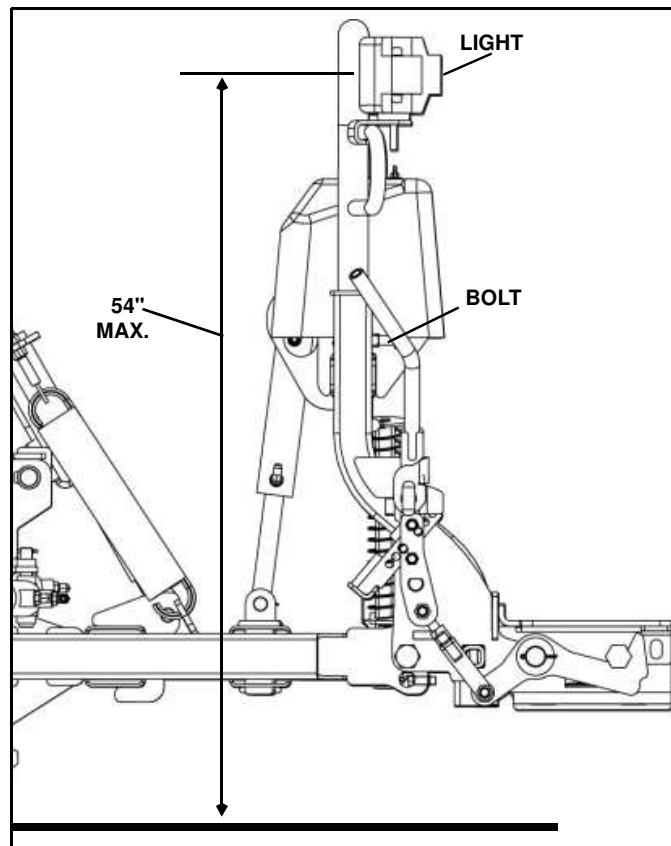

Figure 1-26
33. The height of the light bar in the LLLB is adjusted to one of three possible positions. Position the light bar so that center of the lights is 54" maximum off the ground when plow is fully lowered to the ground. The lights should clear the plow when it is fully raised. (See Figure 1-26).